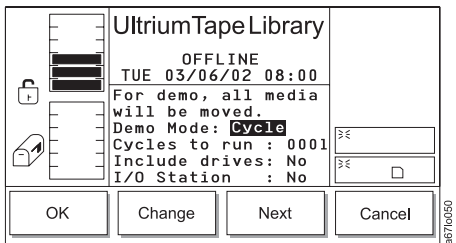

Figure 4-173. Demo Dialog
4. Press the button below the **Demo** softkey. The Demo Dialog displays (see Figure 4-173).